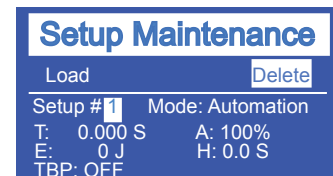

Figure 5-19 Setup Maintenance - 3
3. After selecting **YES**, press **SETUP**, and the display will look like Figure 5-19.
4. **Delete** -To delete the setup, select **Delete** as shown in Figure 5-19, and press the **ENTER** key. A pop-up screen appears to ask you to confirm your choice.